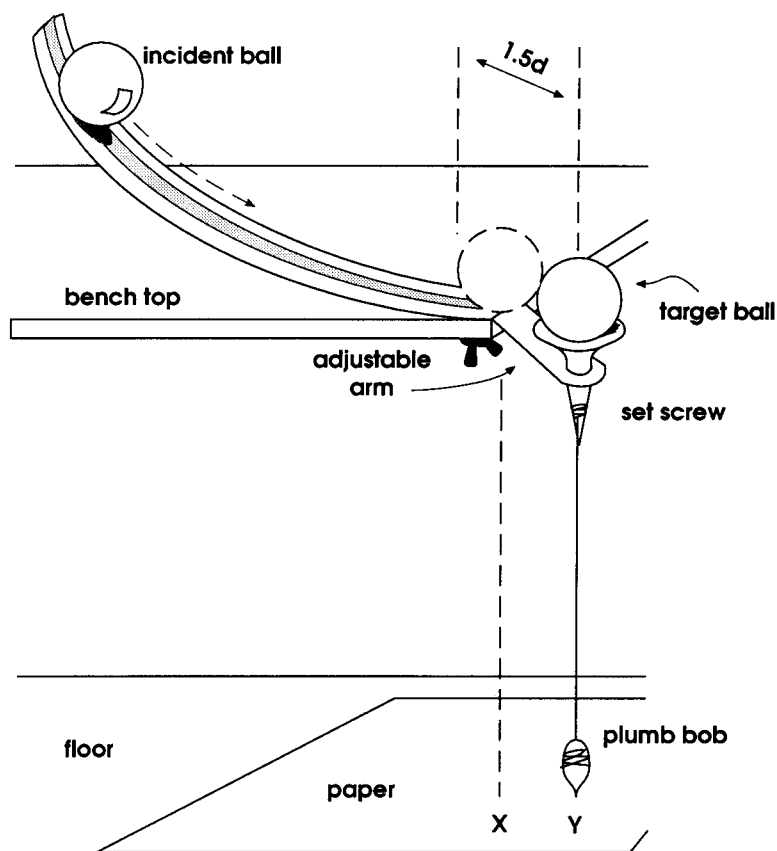

figure 1
- Set the adjustable arm so that there is a distance of 1.5 times the diameter of the target ball between the centre of the target ball and the end of the track (*see figure 1*).
- Mark the position of the plumb bob clearly on the paper directly below the centre of the target ball ('Y' in figure 1)
- Measure accurately and record on the paper the point directly below the centre of the rolling ball at the time of impact ('X' in figure 1).